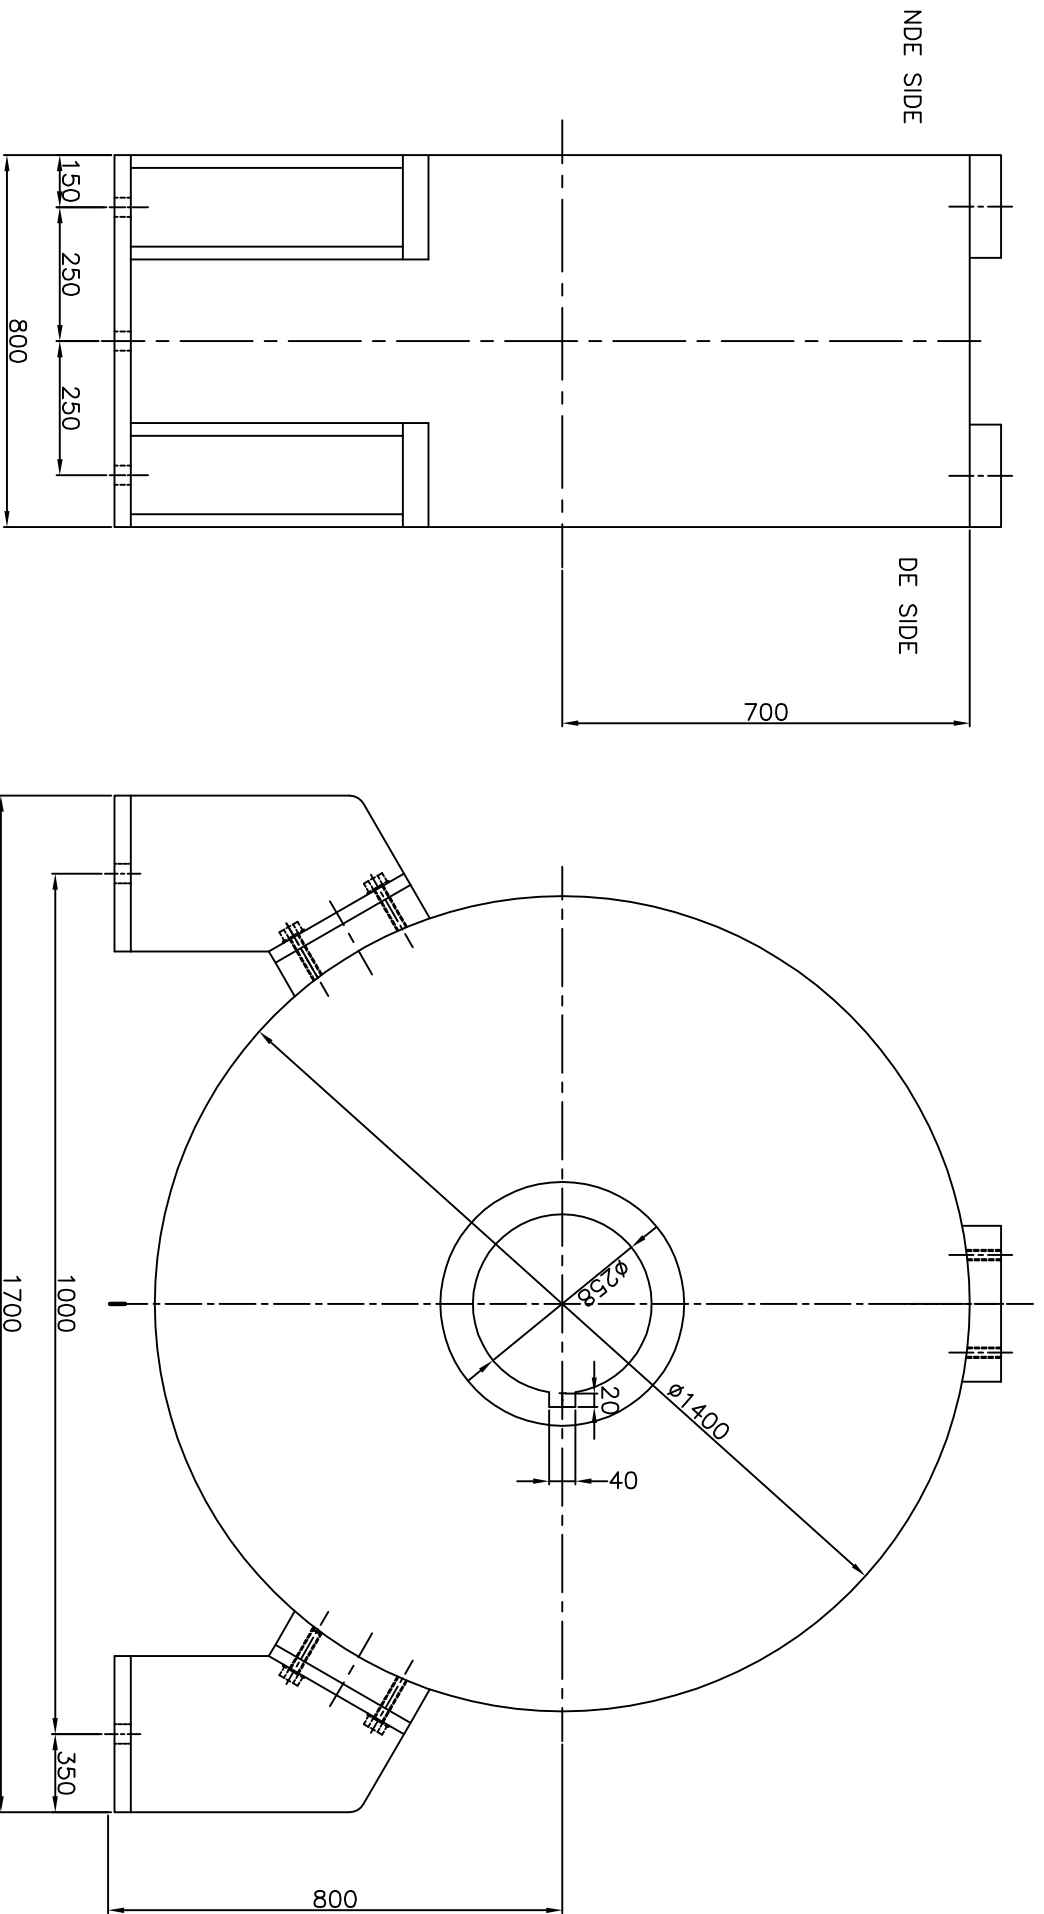

Fig. 2 OVERALL DIMENSIONS OF 158kW SYNCHRONOUS GENERATOR
- b. Dimensional Drawing of Drive Panel, Base frame, Regenerative Drive and other major components. Synchronous Generator Over all dimensions given in Fig. 2.